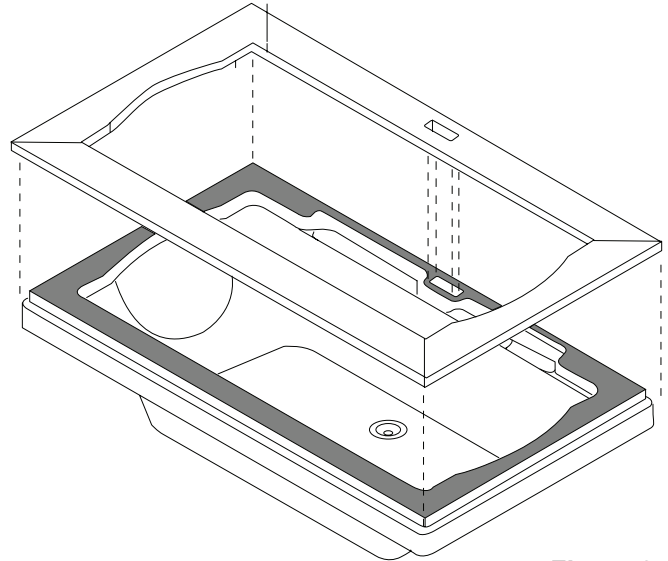

Figure 3
- ④ Check fit and cutout hole alignment of frame to tub (Figure 3). Some adjustment may be necessary to achieve an attractive alignment of the tub and frame.